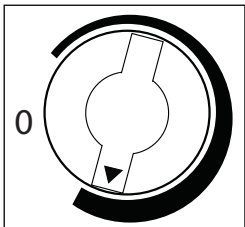

Fig.1
- Turn the temperature control knob clockwise to the furthest (maximum) setting on the darkest blue/widest section of the graduated control dial. See **Fig. 1**.